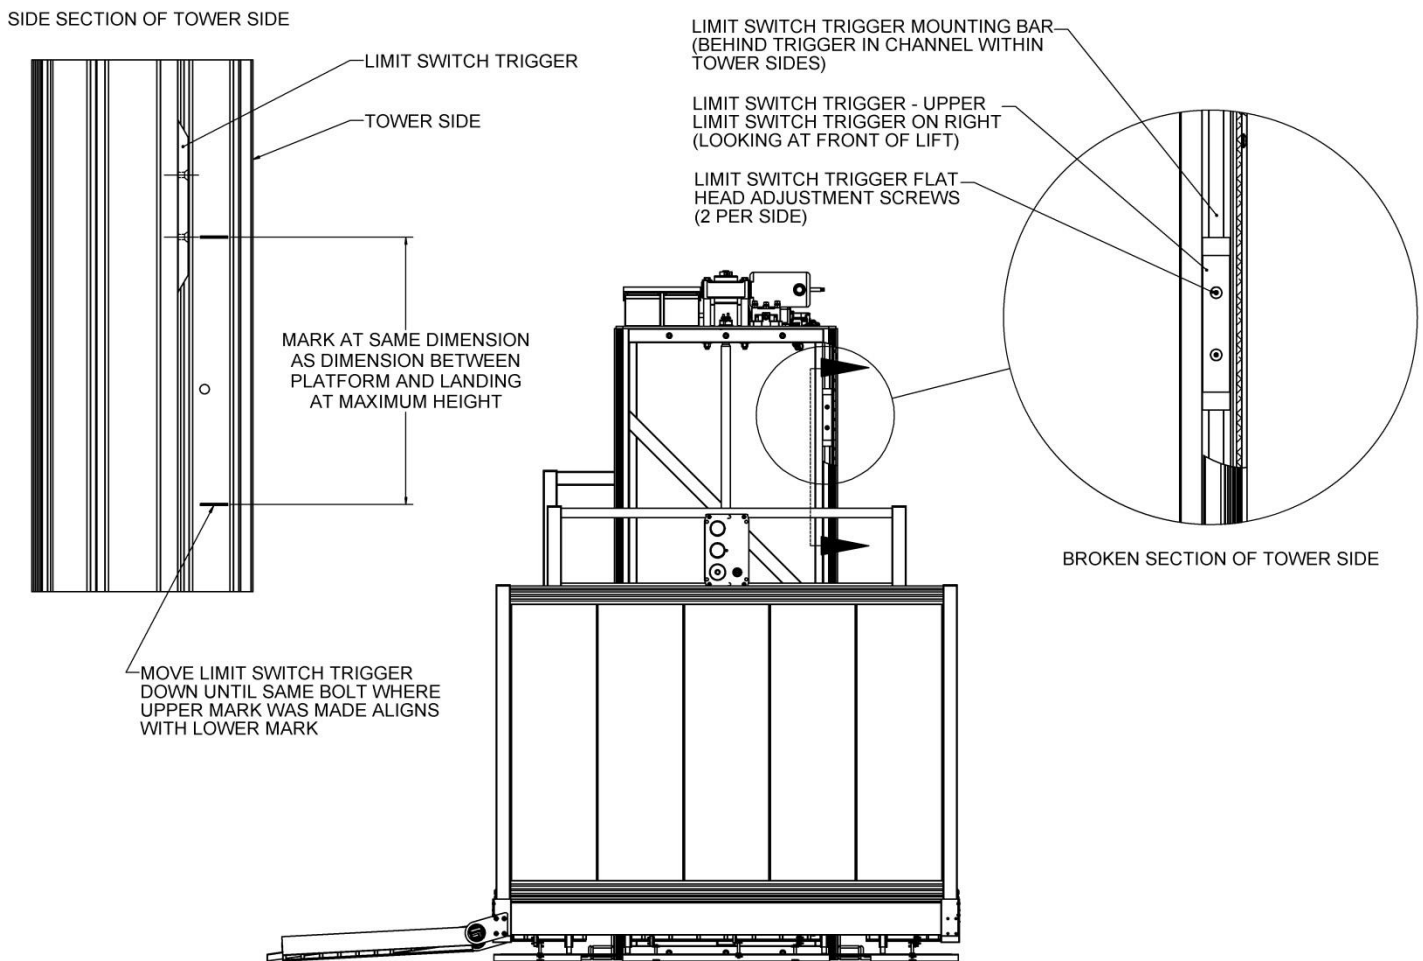

FIG. 4.16
45. Locate the limit switch trigger on the upper right inside of the tower side. Place a mark on the tower side aligned with one of the flat head adjustment screws on the limit trigger (FIG. 4.16).